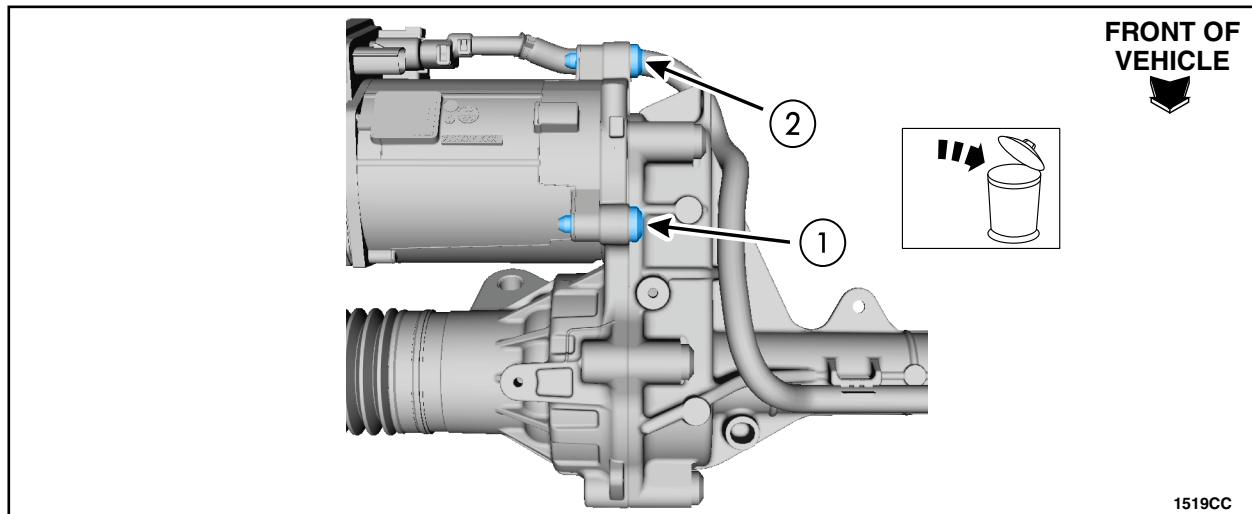

FIGURE 10
1. Working from the front of the subframe, first replace steering gear motor bolt one. Then replace bolt two. See Figures 10 and 11.